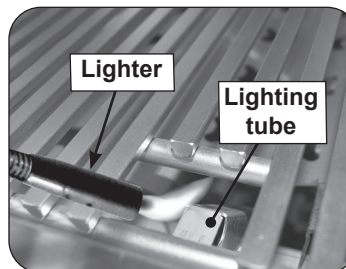
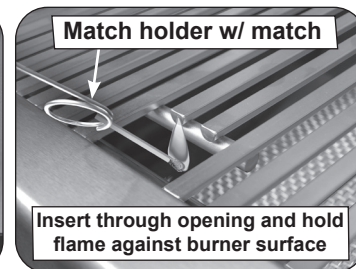

Fig. 37-2 Manual lighting via lighting tube
Fig. 37-3 Manual lighting via match holder
2. Insert either a burning long-barrel butane lighter or a burning long-stem match through the cooking grid opening to the top of the lighting tube (see Fig. 37-2). For backburners or infrared burners, hold the flame against the surface of the backburner/infrared burner. Grills equipped with an infrared burner include a wire extension match holder (attached to drip tray) to assist with manual lighting (see Fig. 37-3).
4. If the burner does not light within five (5) seconds of turning the control knob, **immediately depress the knob and turn the valve to OFF**. **WAIT FIVE (5) MINUTES** before repeating steps 2 through 4 of the **MANUAL LIGHTING** instructions.